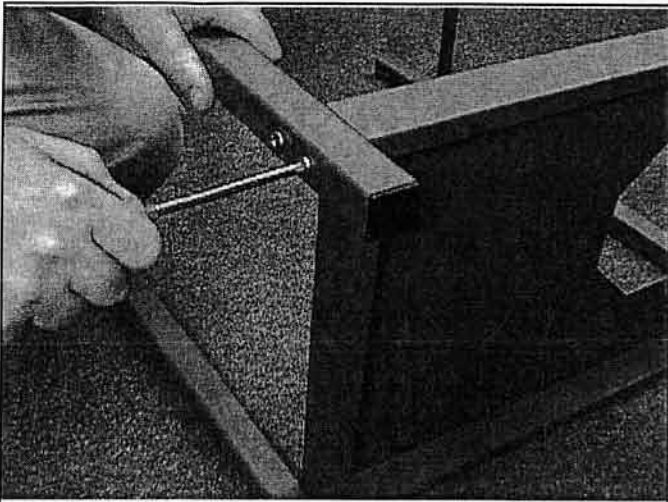

Figure 6 - Attaching Deluxe cart base to legs
- 3) Insert cart base between leg assemblies with the tank hole on right side of grill (nearest wheels). Loosely attach using (8) 1/4"x2" screws and nuts. (**Figure 6**). Do not tighten.
- 6) Carefully lift grill head onto post (need a buddy for this one!) and attach with (4) 1/4" screws and nuts (**Figure 6**).